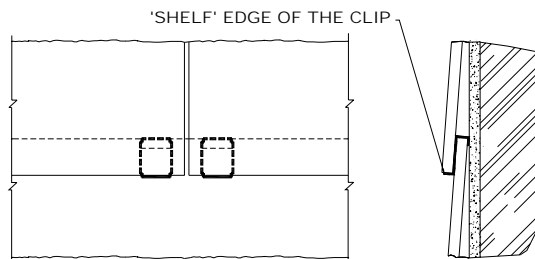

Figure 2
3. Set the next piece of fiber-cement siding on the 'shelf' edge of the clip. See Figure 2. Stagger joints as per siding manufactures recommendation and nail. Use two clips per board – from 1" to 3" from each end. See Figure 3.